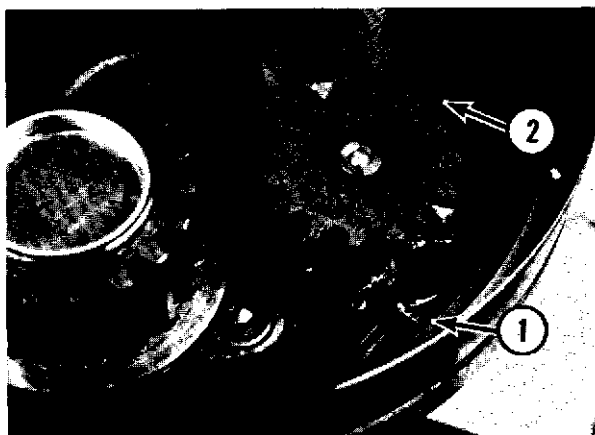
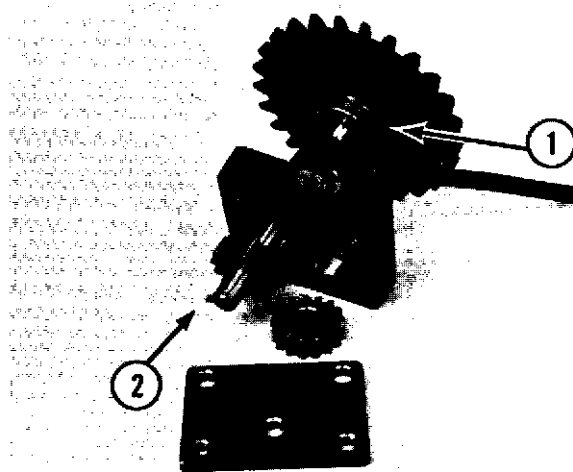

Fig. 10-15
Fig. 10-16
The oil pump provides lubrication to the internal gear, pinion and to the upper planetary bearing. Check the oil pump inlet (1, Fig. 10-15) and outlet (2, Fig. 10-15) holes to see that they are not clogged. With oil in the planetary cavity a small amount of it should flow from the outlet tube when the drive gear is turned counterclockwise by hand.
C. Drive the pin (1, Fig. 10-16) from the shaft if it is necessary to remove the gear.
D. Drive the pin from the hub (2, Fig. 10-16) of the drive gear if it is necessary to replace the drive gear.
F. Assemble the top plate, body and bottom plate as shown (Fig. 10-16). Oil pump inlet (1, Fig. 10-15) must point toward the outside of the planetary.